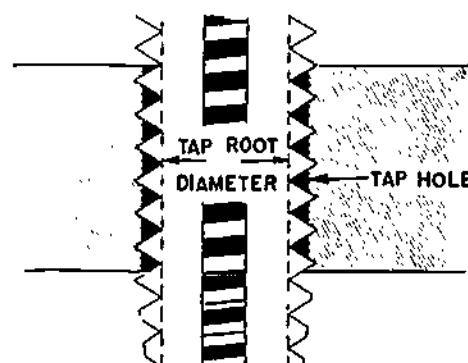

Figure 17-34. Over-Sized Drilled Hole for Tapping
b) If the tap drill selected is over-sized the tap hole will also be over-sized and the tap can only cut shallow threads. (See Figure 17-34.)